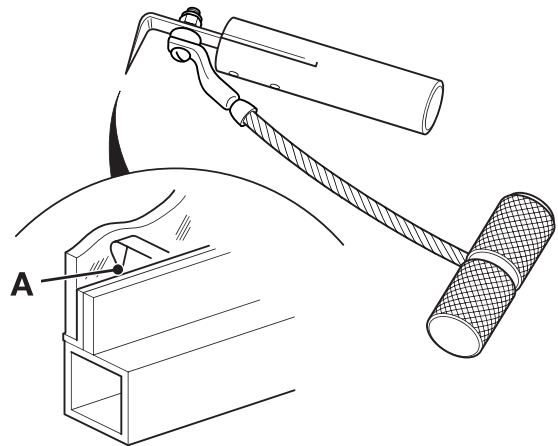

Fig 6. Cut-out Knife
- c Cut-out Knife.** ⇒ Fig 6. \(□ B-43\). The cut-out knife can be used as a left handed or right handed tool.